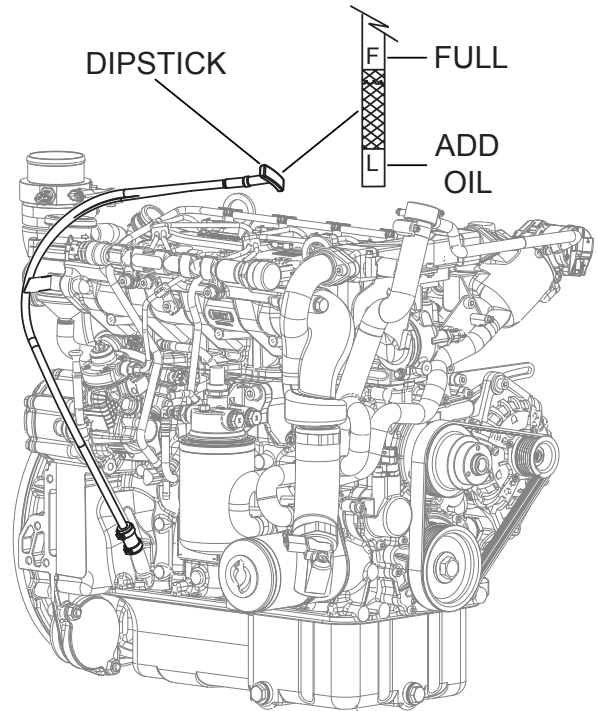

Figure 6. Adding Engine Oil
2. Pull the engine oil dipstick from its holder (Figure 6).